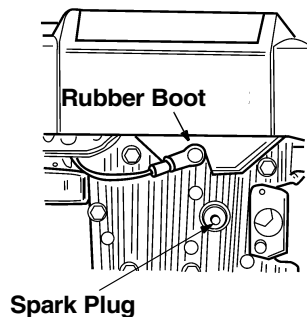

Figure 1
- Disconnect spark plug wire from the spark plug and attach rubber boot to a bolt on the engine to ground. See Figure 1.